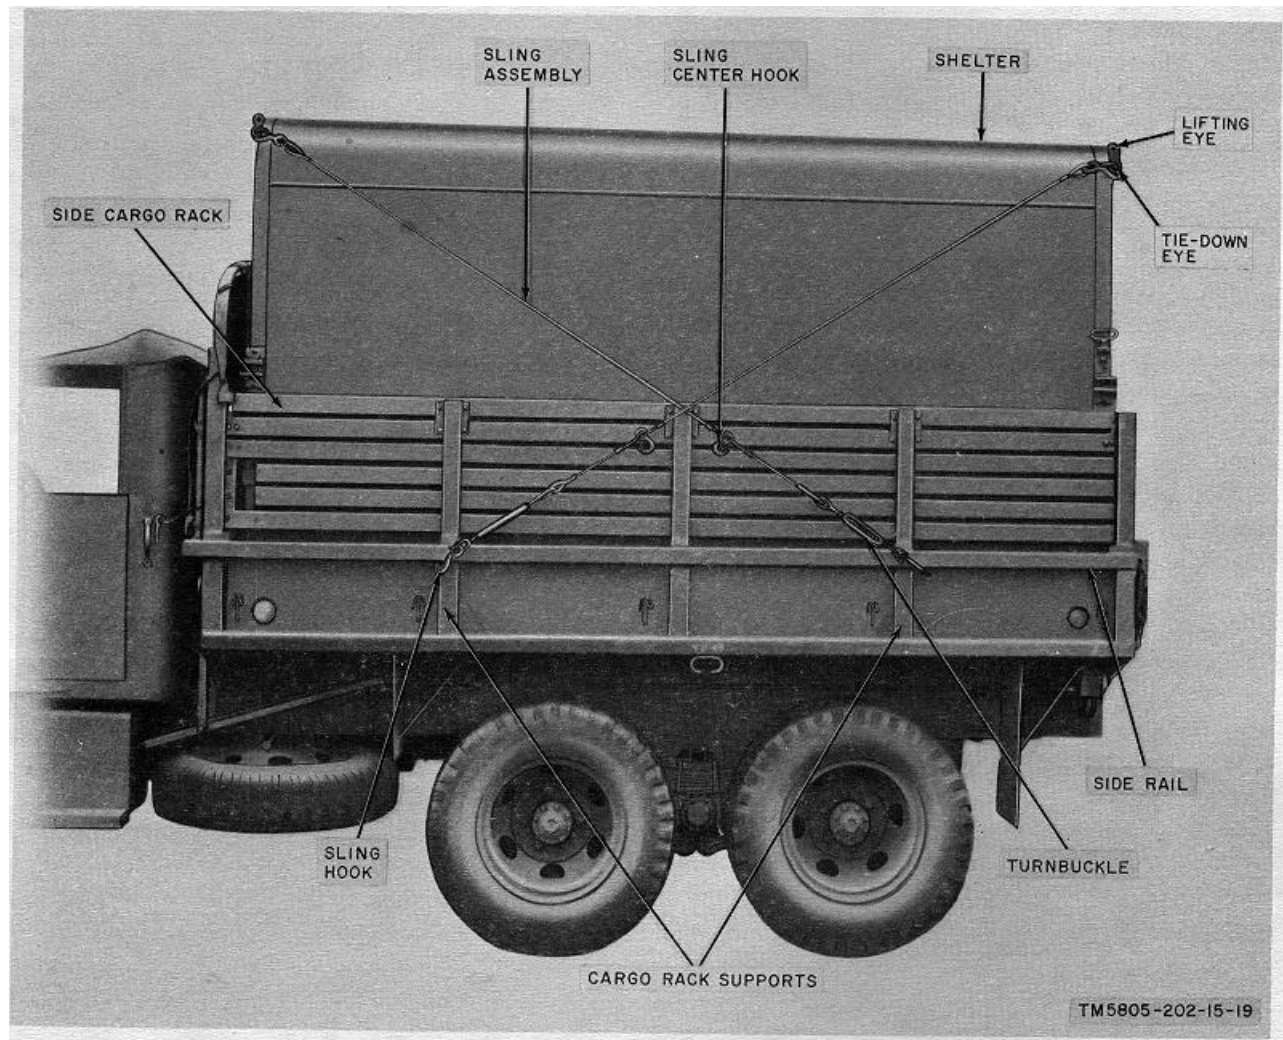

Figure 15. Securing shelter on truck.
- (10) Remove the lifting ring from the lifting hook and disassemble the lifting ring and sling hooks. Remove the sling hooks from the lifting eyes of the shelter. Remove the 1/2-inch ropes from the towing eyes.
b. *Securing Shelter to Truck* (fig. 15). Secure the shelter to the truck as follows:
- (1) Use the sling hooks at the end farthest from the turnbuckles and hook each of the four sling assemblies to a tie-down eye of the shelter.
- (2) Use the sling assembly which is attached to the tie-down eye at the front of the shelter; place the sling hook nearest the turnbuckle under the side rail and behind the second cargo rack support for the rear of the truck.
- (3) Use the sling assembly which is attached to the tie-down eye at the rear of the shelter; place the sling hook under the side rail and in front of the second cargo rack support from the front of the truck.
- (4) Follow the procedures in (1) through (3) above to secure the other side of the shelter.
- (5) After the four sling assemblies have been attached to the side rails of the truck tighten the turnbuckles.